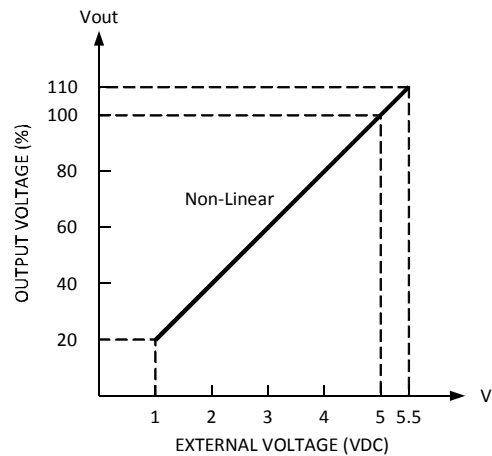

Fig 3.2
- (3) Adjustment of output voltage is possible between 20~110%(Typ.) of the rated output which is shown in Fig 3.2.